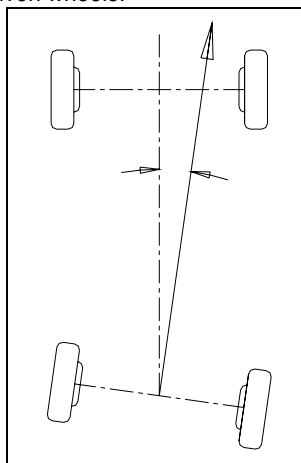

Fig.1.6
- Rear wheel driven: the thrust angle equals half of the toe-in difference between the two rear wheels. As shown in Fig.1.6.